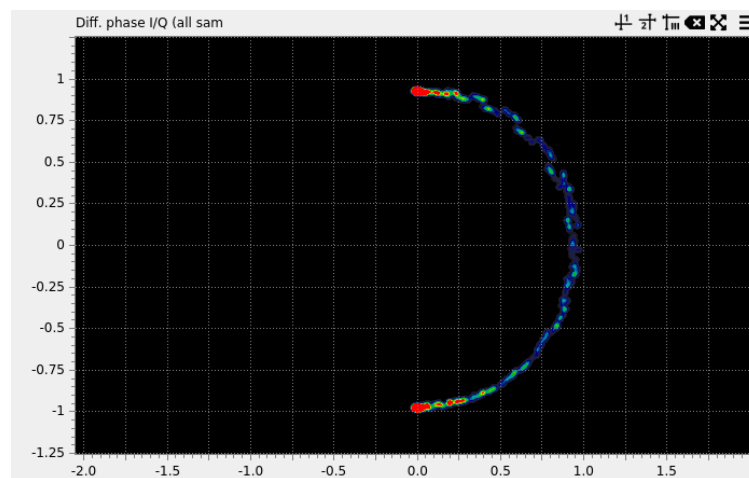

Figure 57: Differential phase I/Q diagram.
The *Differential* I/Q diagram, as in Figure 57, can be used to distinguish constant envelope CP-FSK emissions (including (G)MSK) from other non-constant envelope modulations as PSK, OQPSK or QAM.